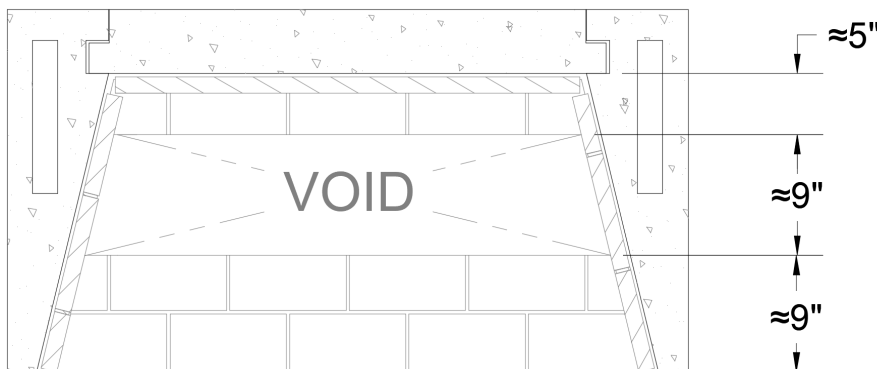

FIGURE 44
- 3) The burner cavity must have a height of 2-1/2”, a depth of approximately 8-3/4”, and the length shall extend the entire length of firebox. **(Table 5; Figure 44 & 45)**